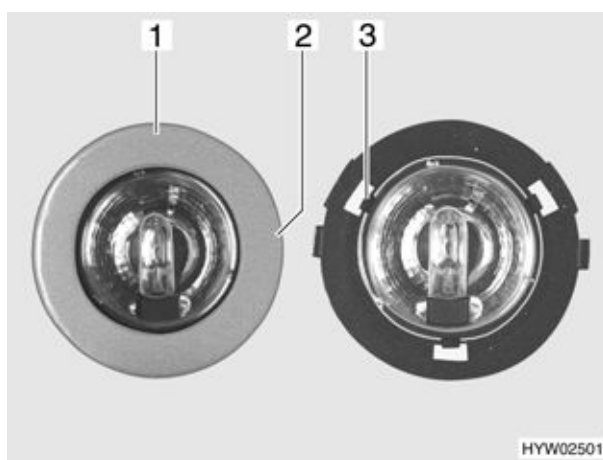

Fig. 189 Halogen lamp
- Turn the panel (Fig. 189,1) slowly until the shade screw underneath engages in the housing catch (Fig. 189,2).
- 3 clamps (Fig. 189,3) hold the glass of the halogen lamp in the housing. Push one of the 3 clamps to one side.